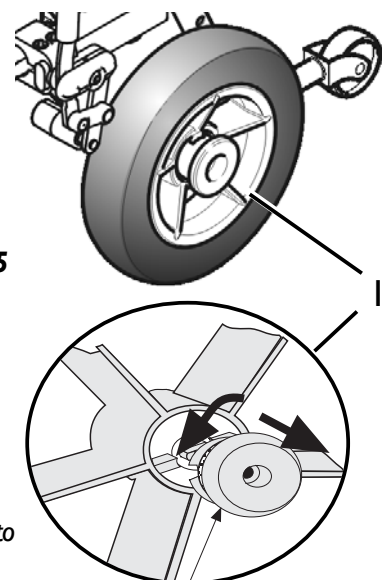

Fig. 5
1. Drive Mechanism couplings and Freewheel is engaged in drive Position (Fig. 5) and Parking locks (Manual) are released.